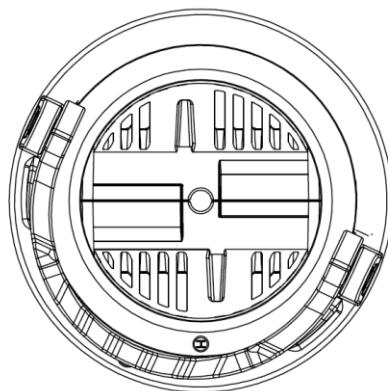
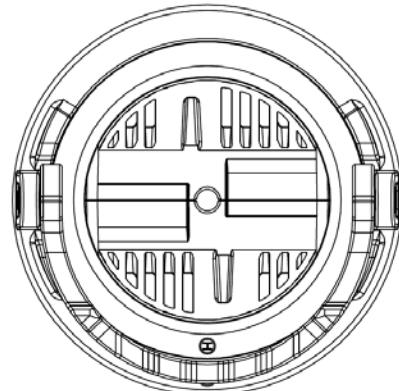

Fig. 9A: Basket ring in "locked" position
Fig. 9B: Basket ring rotated 25° CCW to "unlocked" position (top view)
- 2.5.1.7.1 Rotate basket ring counter-clockwise (as viewed from top of basket) approximately 25° to allow slots in basket ring to align with runner ribs on basket. (Note: Alignment slots of basket ring not visible from top of ring.) (See fig. 9A and fig. 9B.) **[NOTE: Basket ring will first encounter "soft" stops used to lock basket ring in place, basket ring will then encounter "hard" stops. Do not force basket ring to rotate past "hard" stops.]**